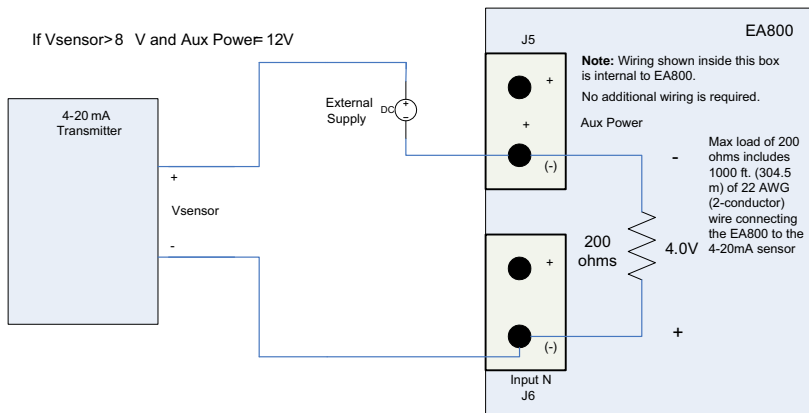

Figure 7 4-20mA Sensor Wiring Diagram - External Power Supply
Figure 7 shows an example of the loop circuit for a 4-20mA sensor whose minimum operating voltage is greater than 8V when connected to an EA800 console that is powered with 12VDC.
- If the EA800 is connected to a 12VDC power supply, use of the sensor in this example requires an external power supply of at least 14V as shown in Figure 7.